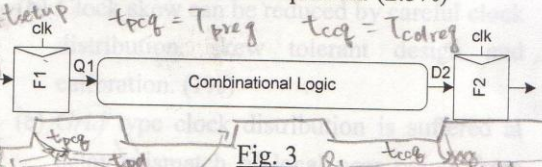

Fig. 3
3. A sequential circuit as shown in Fig. 3. Assume the period of  $\text{clk} = T$ , max clk-to-q delay of  $F1 = T_{\text{preg}}$ , min clk-to-q delay of  $F1 = T_{\text{cdreg}}$ , the maximum-delay of combinational logic =  $t_{\text{plogic}}$  and the minimum delay =  $t_{\text{cdlogic}}$ . (5%)
A sequential circuit as shown in Fig. 3. Assume the period of  $\text{clk} = T$ , max clk-to-q delay of  $F1 = T_{\text{prop}}$ , min clk-to-q delay of  $F1 = T_{\text{setup}}$ , the maximum delay of combinational logic =  $t_{\text{max}}$ , and the minimum delay =  $t_{\text{min}}$ . (5%)